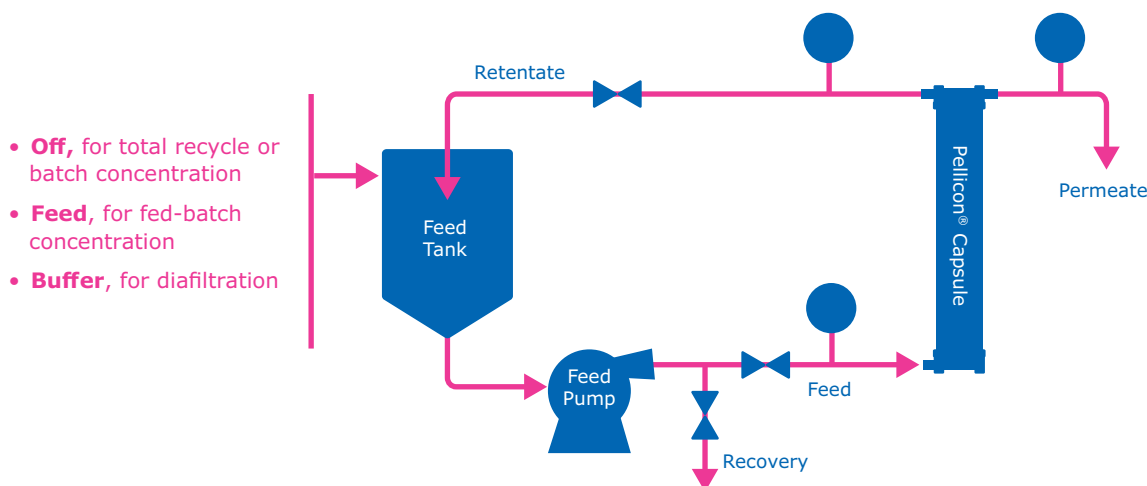

Figure 8. Example of a TFF system with Pellicon® Capsule.
1. Install Pellicon® Capsule(s) with 30 kDa Ultracel® membrane into the single-use TFF system (**Figure 8**) for the filtration of modified mAb or ADC with molecular weight of ~150 kDa. Installation of the capsule does not require a compression holder or single-use liners/insert plates to contain the feed solution.²